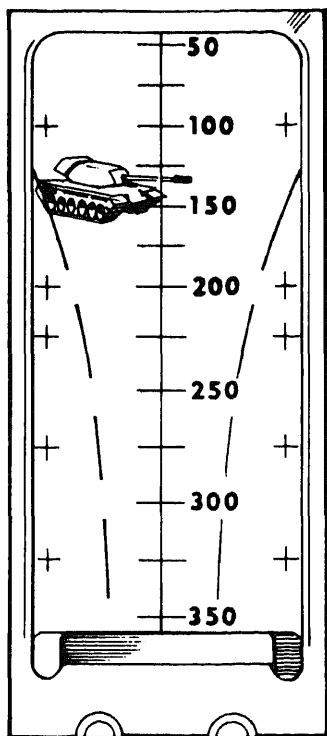

Figure 5-70.—Target moving toward gunner, 150 meters at an angle of 45° or less.
4. *Targets moving at an angle toward or away from the gunner.* When the target is moving toward the gunner at an angle where more of the front of the target is visible than the side, the gunner should estimate the range to the target and place the range on the forward edge of the target (fig. 5-70). If the target is moving at an angle where more of the side is visible than the front, the gunner should estimate the range, estimate the speed it appears to be moving, and apply one-half lead to the forward edge of the target (fig. 5-71).